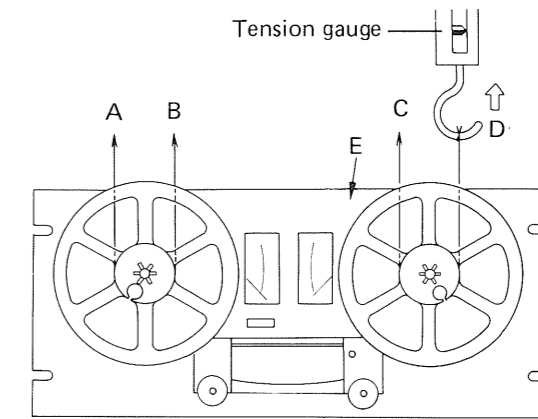
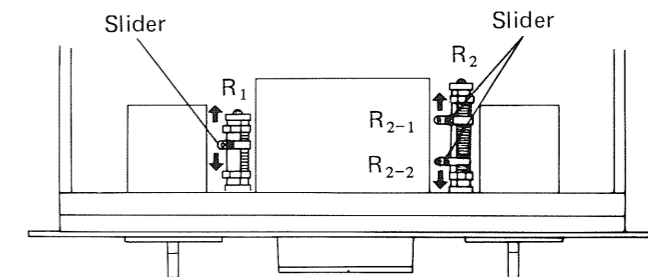

Fig. 21
Fig. 22
Fasten a piece of string to a 7-inch reel (hub diameter 60mm) and place the reel onto the reel base (Fig. 21).
1. Playback at a set tape speed of 19cm/s and measure the back tension of the supply side reel base. (Pull the gauge in direction B of Fig. 21.)
2. Adjust the slider (R_{2-1}) of sliding resistor R_2 shown in Fig. 22 so that the measured value becomes $80 \sim 90\text{g}$ (torque = $240\text{g}\cdot\text{cm} \sim 270\text{g}\cdot\text{cm}$).
1. Playback at a set tape speed of 19cm/s and measure the takeup tension of the takeup side reel base. (Send the tension gauge in the E direction of Fig. 21).
2. Adjust the slider (R_{2-2}) of sliding resistor R_2 shown in Fig. 22 so that the measured value becomes $125 \sim 135\text{g}$ (torque = $375\text{g}\cdot\text{cm} \sim 405\text{g}\cdot\text{cm}$).
• Fast Forward (FF) Back Tension Torque Adjustment
1. Operate the set at fast forward and measure the back tension of the supply side reel base. (Pull the tension gauge in the B direction of Fig. 21.)
2. Adjust the slider of sliding resistor R_1 shown in Fig. 22 so that the measured value becomes $35 \sim 40\text{g}$ (torque = $105\text{g}\cdot\text{cm} \sim 120\text{g}\cdot\text{cm}$).